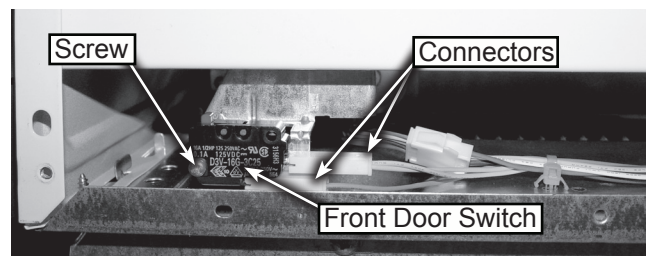

Figure 4
8. The front door switch is located behind the side panel on the right side of the microwave, see figure 4.
9. Remove the connectors and one screw to replace, see figure 4.
- 8. The rear door switch is located behind the side panel on the left side of the microwave, see figure 4.